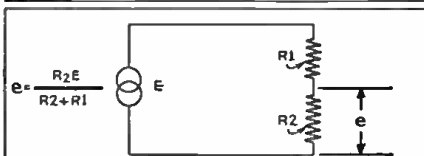
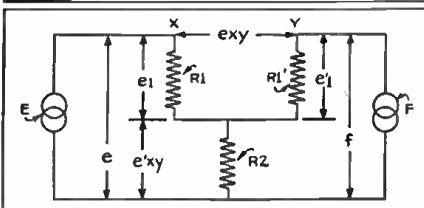

FIG. 4 ~ BASIC DIVIDER NETWORK ~
FIG. 6 ~ BASIC DYNAMIC BALANCER CIRCUIT ~
With the above phenomenon kept in mind, a review of fundamental balancing circuits will further simplify the operating principles of the dynamic balancer. If an A.C. generator E is applied to a series resistive network R1, R2, as illustrated in Fig. 4, the voltage (E) appearing across R2 is equal to
- circuits of Figs. 4 and 5 are connected together, so that R2 becomes a common return, Fig. 6 results. If the generators E and F are so adjusted as to be equal in potential but opposite in phase, and  $R_1 = R_1'$ , the following voltage conditions are present:
- (1) The voltage across E (e) is obviously equal to the voltage across F (f).
- (2) The voltage across  $R_1$  (e) is equal to the voltage across  $R_1'$  ( $e'$ ).
- (3) As the voltages are out-of-phase, it is also obvious that the voltages across R2 will cancel, and equal 0.
- (4) The voltages across X and Y ( $e \cdot xy$ ) will also cancel and be equal to 0.
How this is actually done in the amplifier can best be indicated by redrawing Fig. 6 and replacing E and F by their respective tube circuits, as indicated in Fig. 7. In this circuit, the push-pull generator EF, takes the place of the original generators E and F. R1 becomes the independent plate loads of both tubes, while R2 becomes the common degenerative resistor. If both tubes A and B have identical voltage amplification characteristics, the voltage which appears across R2 will be 0. On the other hand, if A has twice the voltage amplification of B, then a portion of this difference will appear across R2.
Figure 9 shows the elements of the dynamic screen-grid balancer circuit, arranged to simulate the plate dynamic balancer of Fig. 8. It will be noted, however, that an essential difference is the inclusion of the condenser Cg2. If the control-grid to screen-grid characteristics are identical in both tubes, complete cancellation of the voltages which appear at both screen-grids will take place, as discussed for the conditions illustrated in Fig. 6. Let us assume for a moment however, that the control-grid to screen-grid characteristics of tube B, are lower than that of A. This naturally means that complete cancellation will not take place across both screen-grids and a residual potential will appear at the screen-grid of tube A. This voltage will then drive the screen-grid of B in a very conventional resistance-coupled circuit, which can easily be perceived by redrawing Fig. 9, as indicated in Fig. 10.